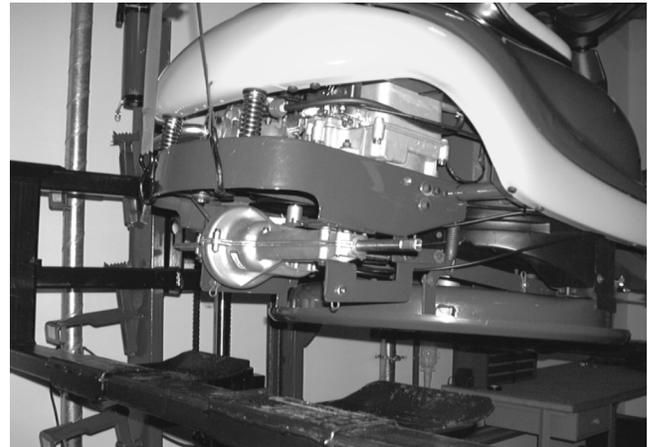

FIGURE 3.
**NOTE:** Make certain the rear axles are greased during reassembly. See figure 3.